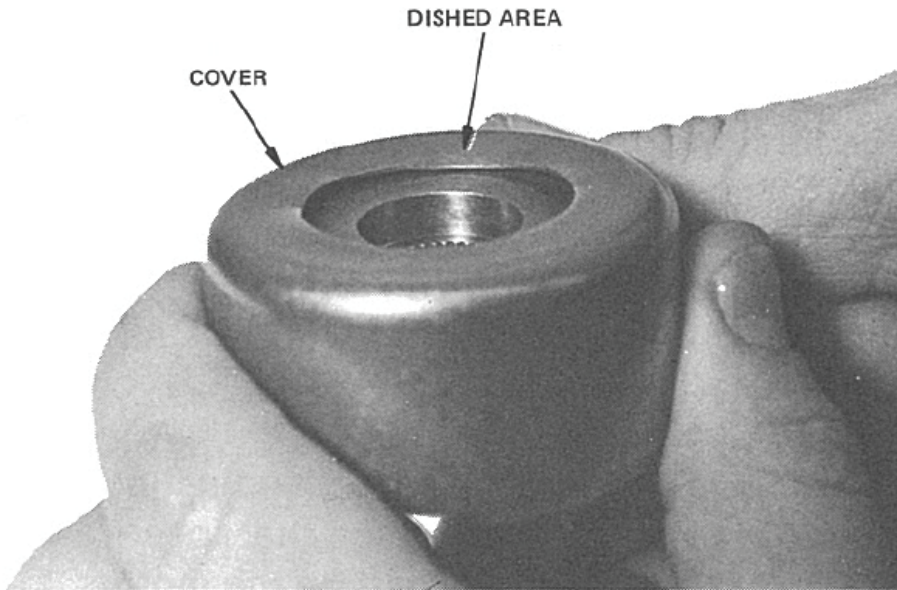

Figure 5-1. Cover Damage
2. If the cover is damaged or dished as in Figure 5-1, replace it. This is normally attributed to rough handling.